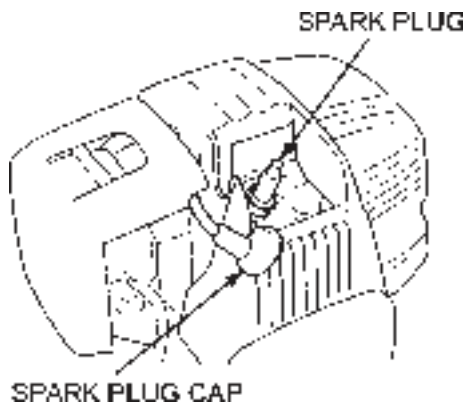

Figure 17. Spark Plug Removal
2. Disconnect the spark plug cap (Figure 17), and remove any dirt from around the spark plug area.